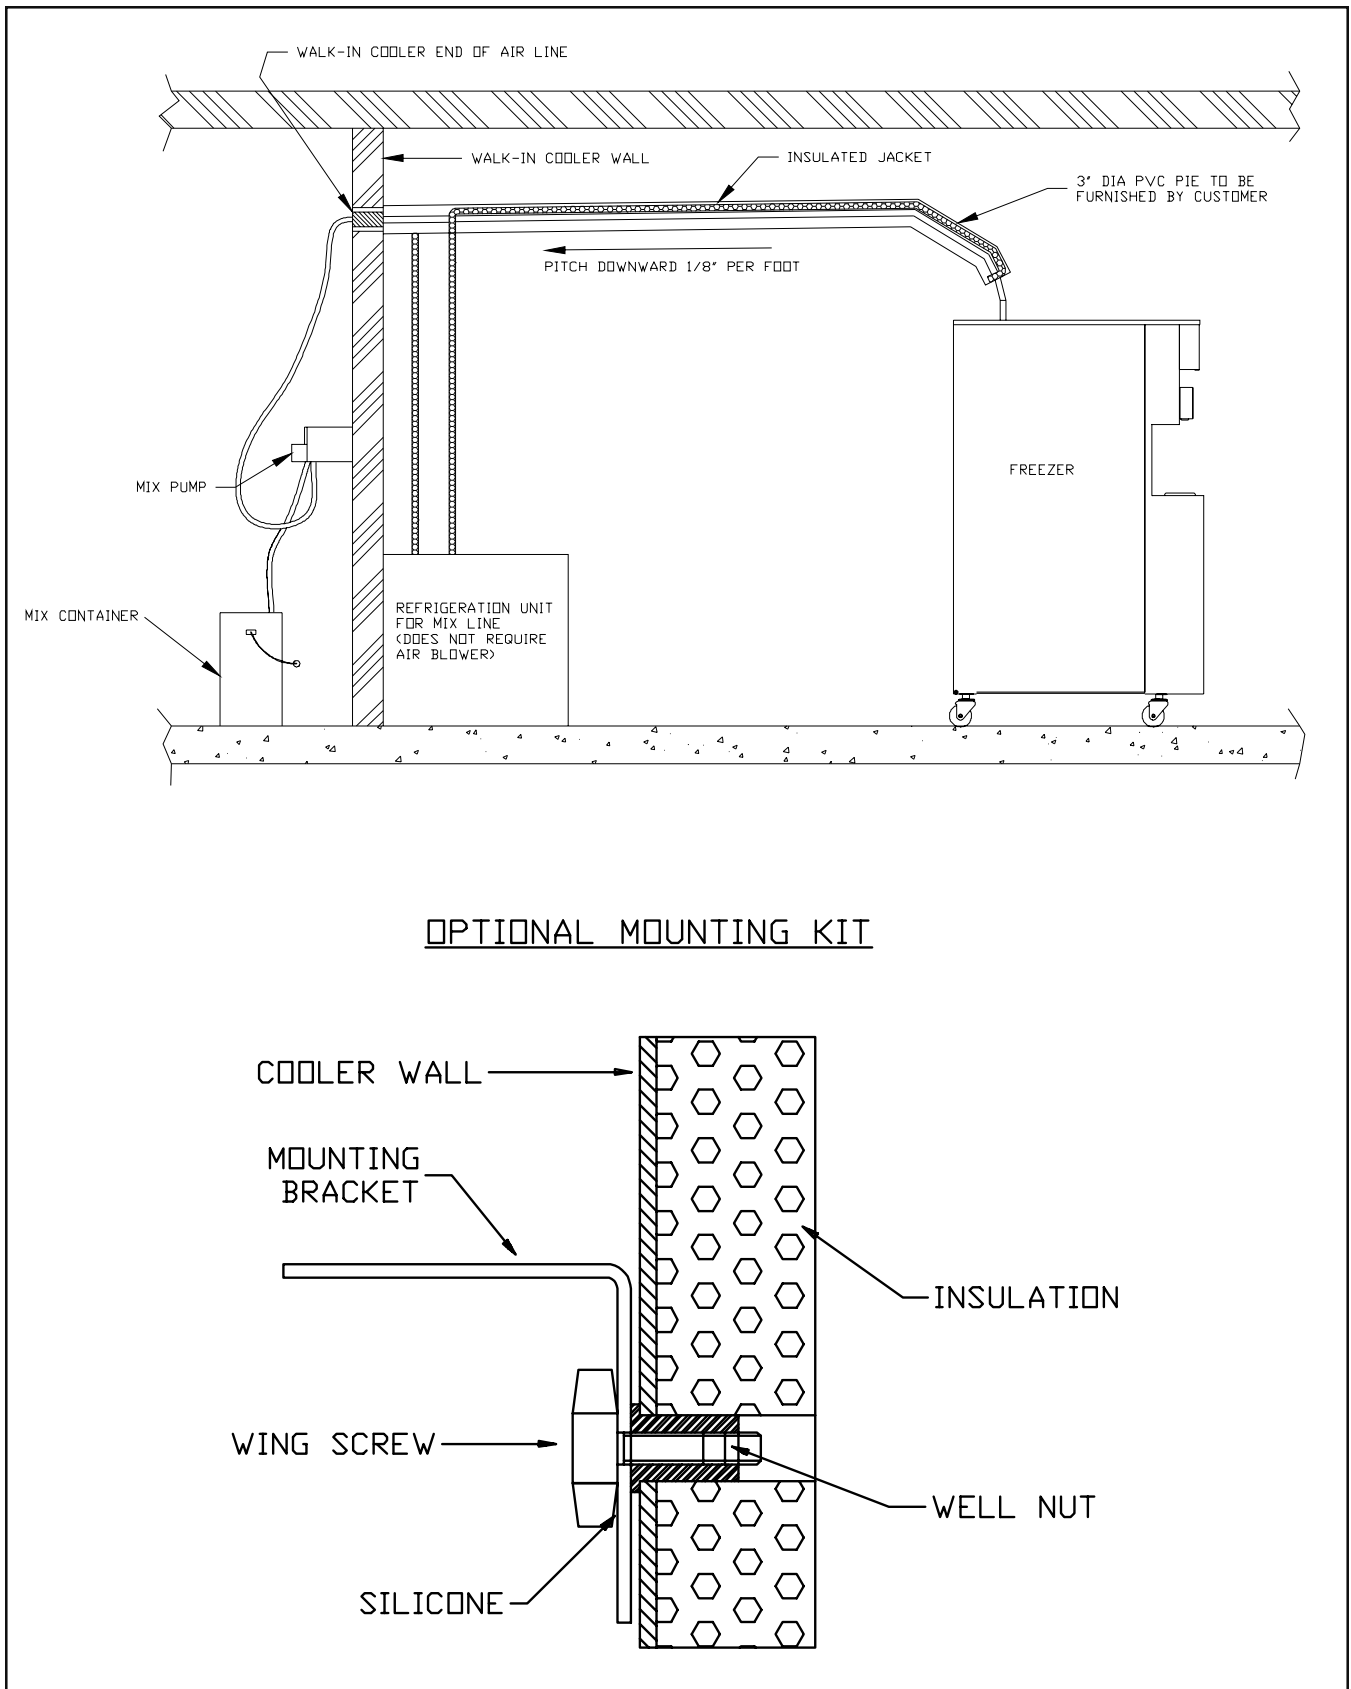

Figure 6
A. Follow the steps below to install the mix pump in an upright position on the wall (allow clearance for a mix container under pump). See Fig.6.
1. Mount by locating four (4) hole centers on cooler wall using mounting bracket as template.
- A. This unit (remote pump) must be installed with a "NSF" listed refrigerated mix transfer line. The mix transfer line must be pitched to the cooler with no sags or low points, to allow complete drainage.(Fig.6).